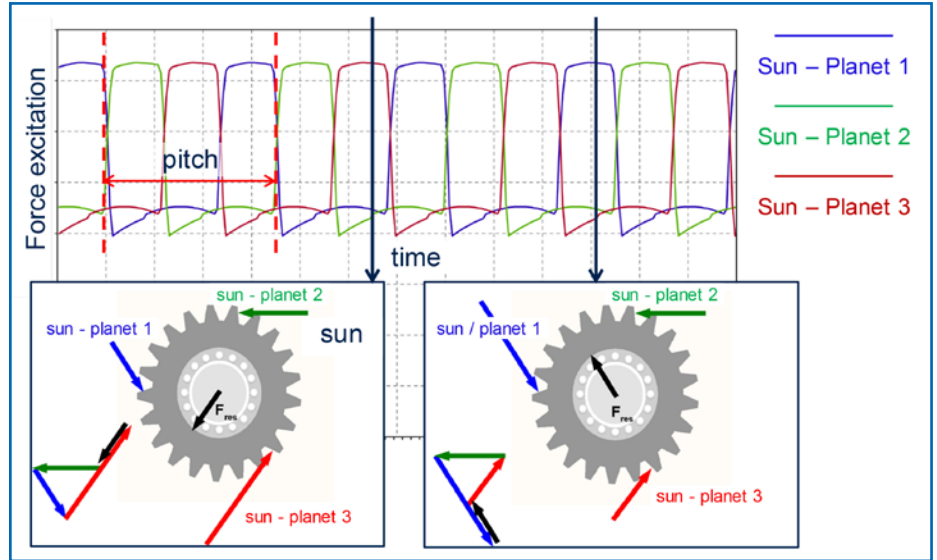
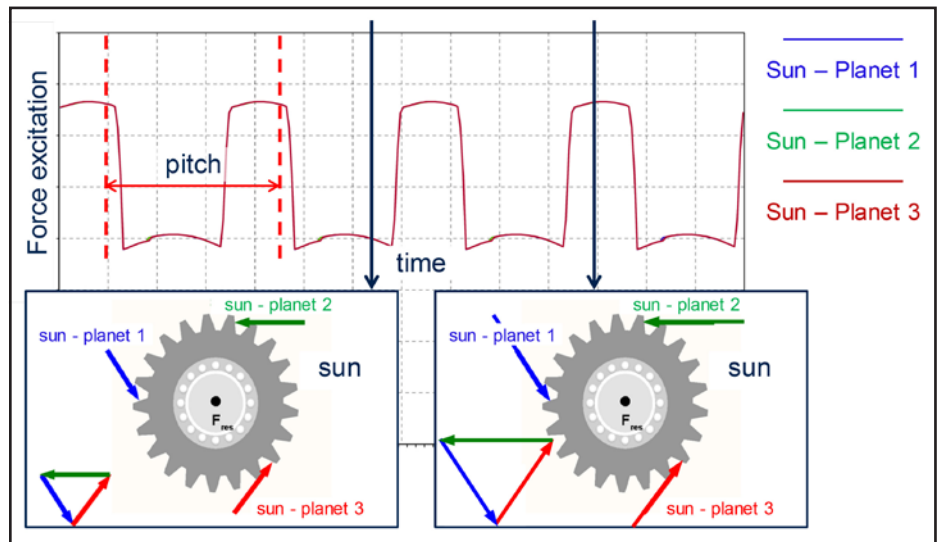

Figure 9 Force excitation of meshes sun-planet (unmodified spur gears); sequential mesh sequence.
Figure 10 Force excitation of meshes sun-planet (unmodified spur gears); symmetric mesh sequence.
**Planetary gear stage with sequential mesh sequence.** Figure 9 shows the force excitation and the torque excitation of the sun pinion for a planetary gear stage with sequential mesh sequence. The individual meshes are distinguished by different colors; they show the typical phase offset for sequential mesh sequence. There are always two meshes in single contact area (low force) and one mesh in double contact area (high force). In the schematic drawings, all radial forces on the sun pinion are shown for the indicated point in time. There is always one force higher than the other two, thus leaving a radial force in alternating directions (black arrows); the total torque, however, is constant at any time.
**Planetary gear stage with symmetric mesh sequence.** Figure 10 shows the force excitation and the torque excitation of the sun pinion for a planetary gear stage with symmetric mesh sequence. The individual meshes are theoretically shown in the same different colors (Fig. 9). As there is no phase offset, all curves are identical and cannot be distinguished. They show the typical synchronous phase for symmetric mesh sequence. All meshes are either in single contact area (low force) or in double contact area (high force) at the same time. In the schematic drawings, all radial forces on the sun pinion are shown for the indicated point in time. The force vectors always balance to zero; however, the total torque alternates periodically.